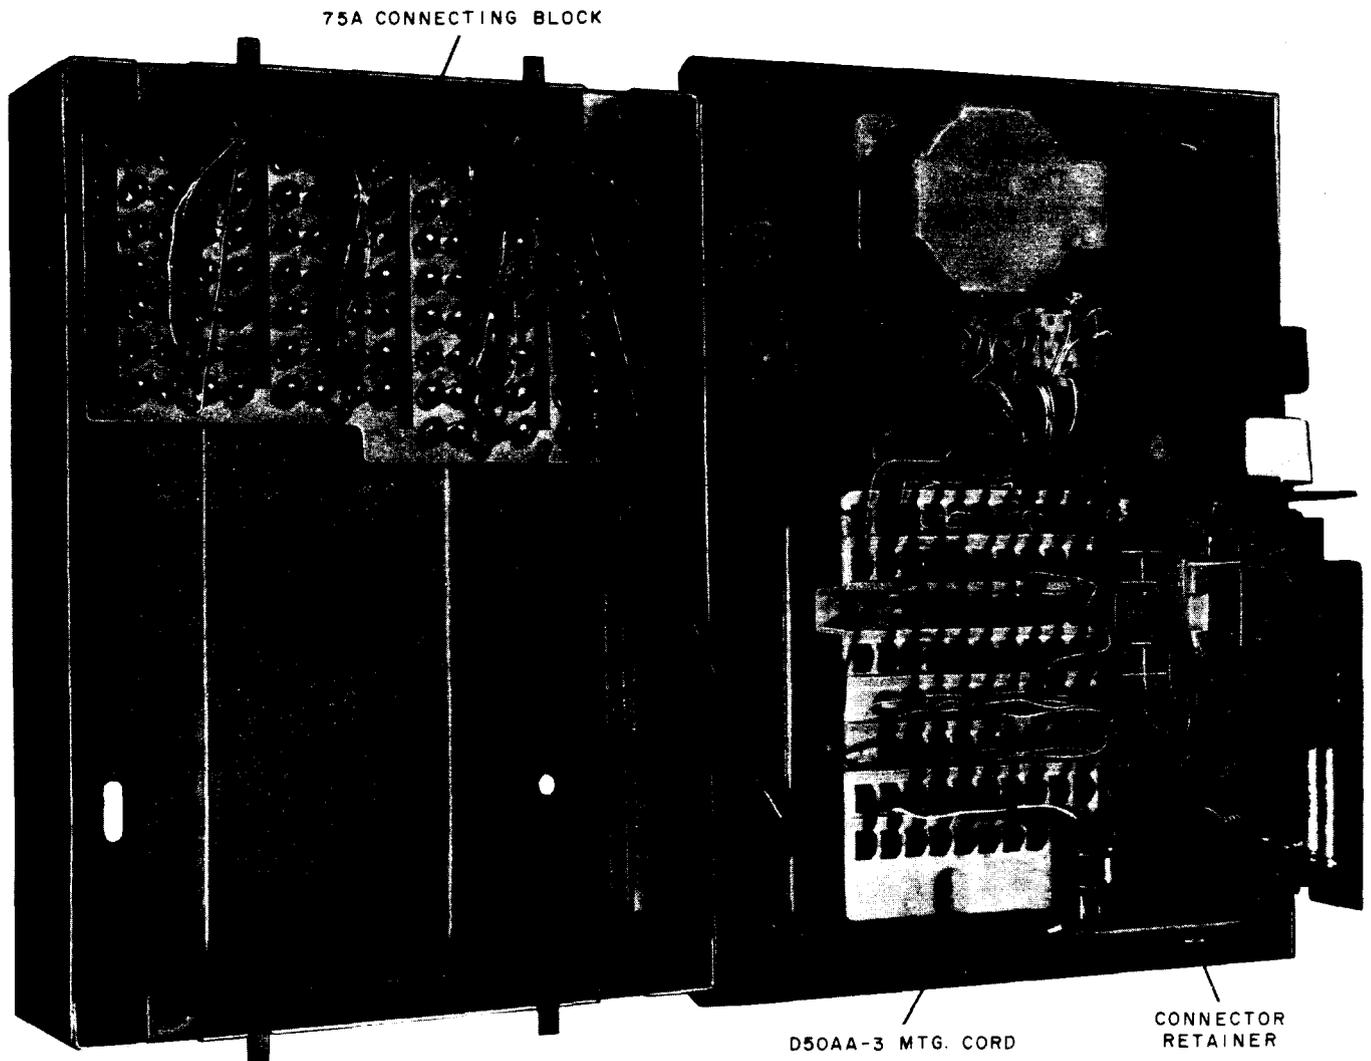

Fig. 2—Installation Detail Using D50AA-3 Mounting Cord and 75A Connecting Block with 114A Apparatus Box
- (1) Dress inside wiring cable conductors through appropriate slots in the 75A connecting block (ordered separately).
- (2) Secure connecting block to mounting bracket in apparatus box.
- (3) Terminate inside wire and D50AA-3 mounting cord conductors in standard color code sequence. Dress mounting cord slack to right side and back of apparatus box (or in applique if provided).
- (4) Remove plastic retainer frame and mat from telephone set.
- (5) Connect mounting cord (or A25B connector) to telephone set plug and secure in place with connector retainer (Fig. 2).
(6) Position and secure telephone set in the apparatus box using four mounting screws provided with set.
(7) Position mat on panel and secure using the next retainer frame. If necessary, the projecting tabs may be adjusted to insure a snug fit.